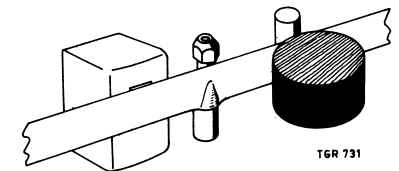

Fig. 17
- Then, turn in screw A so far that the tape becomes deformed at the bottom of the tape guide, see Fig. 17.